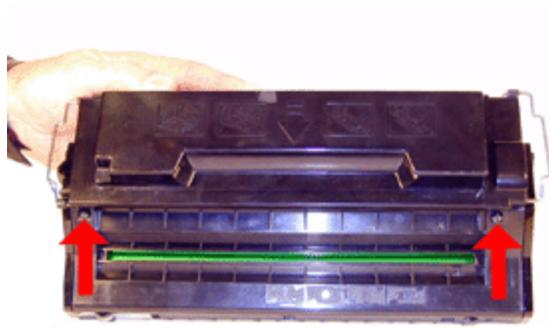

FIGURE 2
3. Remove the top 2 screws. See Figure 2